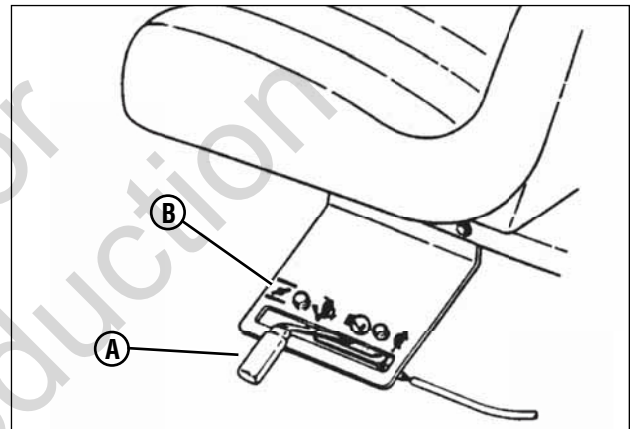

Figure 6: Engine speed control
4. Move the engine speed control (A, Figure 6) to the choke position (B) to start a cold engine.
4. Move the engine speed control (**A**, **Figure 6**) to the choke position (**B**) to start a cold engine.